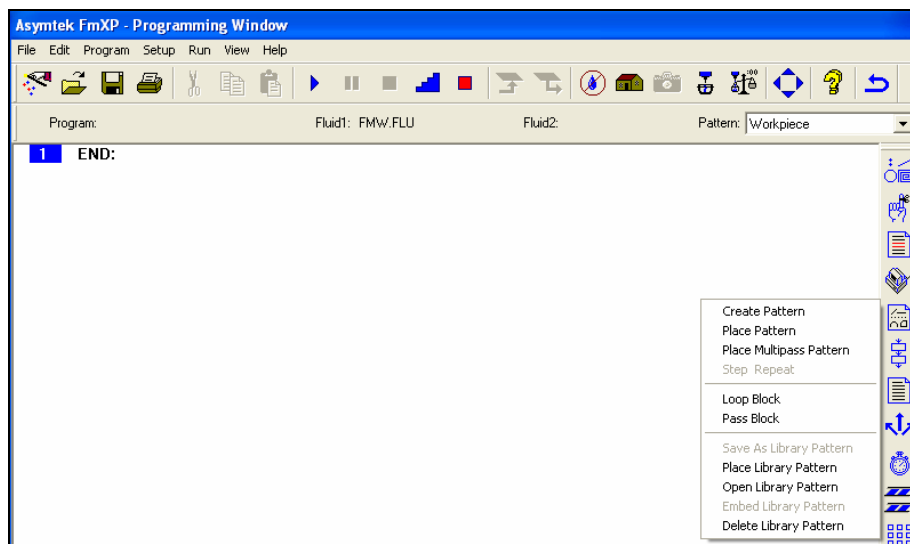

Figure 3-9 Creating a Pattern
1. Click on the **Pattern**  button on the Program Commands toolbar. See Figure 3-9.
2. Click on the **Pattern**  button on the Program Commands toolbar. See Figure 3-9.